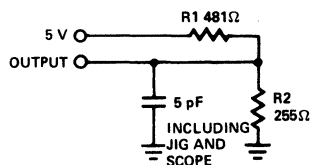

Figure 1b
- t_{HZOE}, t_{HZCE} and t_{HZWE} are specified with C_L = 5 pF as in Figure 1b. Transition is measured ± 500 mV from steady state voltage.